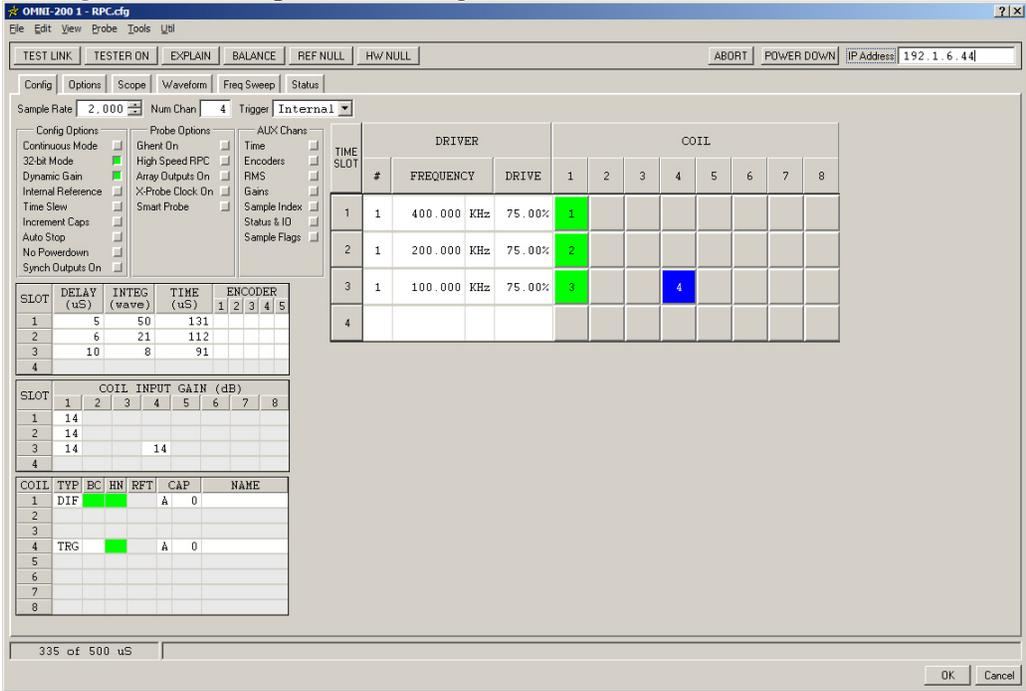
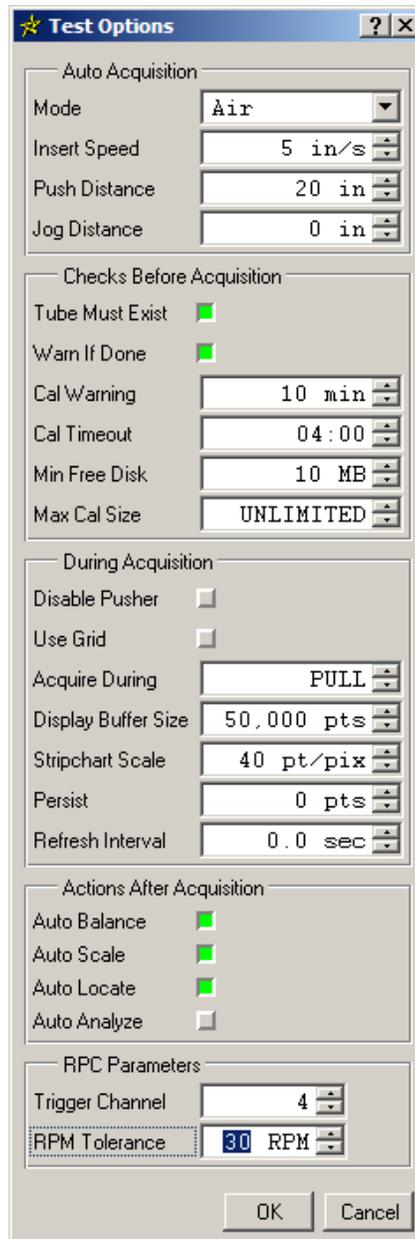

Figure 7
Figure 8
- e. Select tester config and create a valid setup. Coil 1 is the coil that should be used for one coil probes and coil 4 is used for the trigger. Shown is **Figure 7** is a sample RPC config.
- In TEST OPTIONS, select the trigger channel and RPC tolerance. **Figure 8** shows the trigger channel 4 (trigger channel used in **Figure 7** sample config) and a tolerance of 30 RPM.